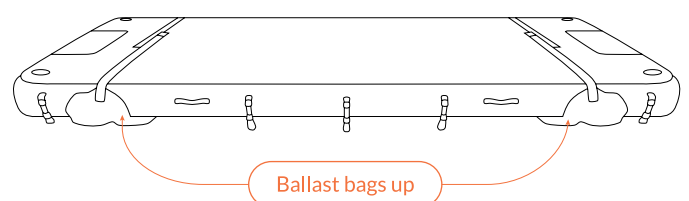

Fig 44 – Ballast bags empty and secured to the Platform
7. Ensure the Ballast Bags are empty, in the up position and with the strap held securely in place to the Velcro strips on top of the Platforms (Fig 44). See Stage 1 Emptying Ballast Bags (page 21) for full instructions.
8. Ensure that the ballast bag straps are secured their entire length to the Velcro strips on top of the Platform. This can be done by tucking the top end of the strap under the opposing ballast strap (Fig 44).